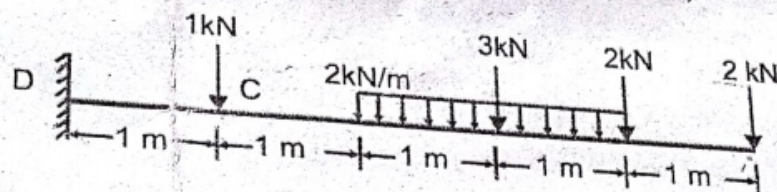

Figure.3
- (c) Draw the shear-force and bending-moment diagrams for the cantilever beam as shown in the figure.3.